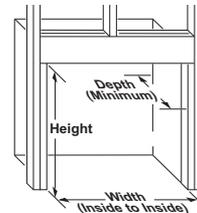
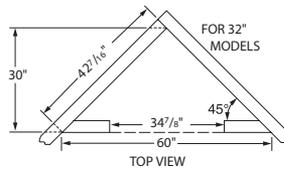

Figure 7a
Figure 7b
1. Frame in rough opening. The firebox framing should be constructed of 2 x 4 lumber or heavier. Use dimensions in Table 1 and rough opening layout in Figure 7a. Adjust framing so that firebox flushes with finished wall surface. If installing in a corner, use dimensions in Figures 7b, 7c and 7d for rough opening.